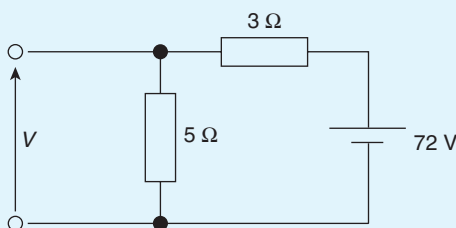

Figure 5.11
4. Calculate the value of voltage V in Fig. 5.11 [45 V]